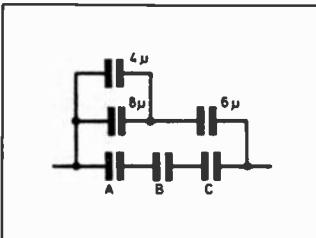

Fig.5.11. Capacitor network.
- Fig. 5.11 shows a network of capacitors in which A, B and C